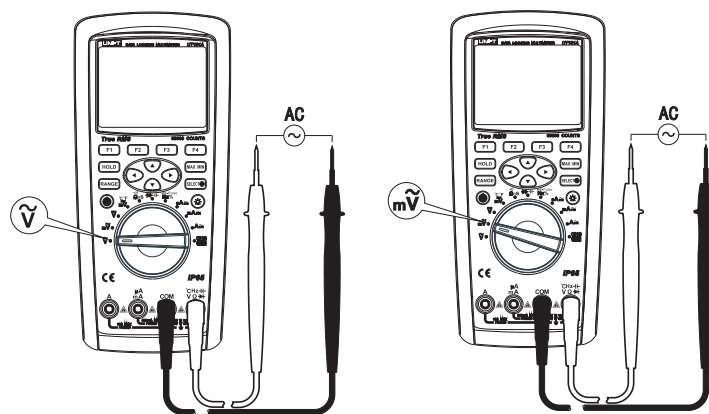

Figure 5
- 2) Set the rotary switch to \tilde{V} or $m\tilde{V}$ as shown in Figure 5.